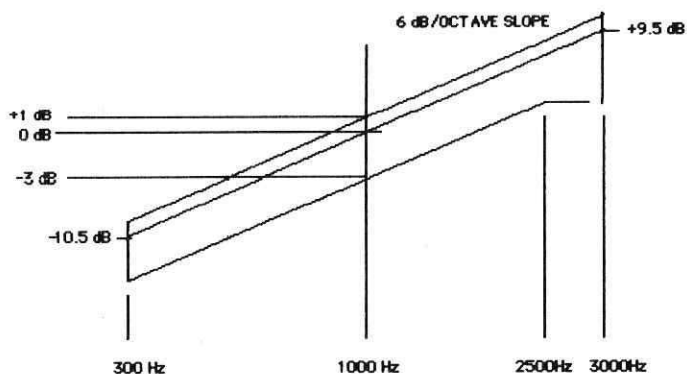

FIGURE 5.9—AUDIO FREQUENCY RESPONSE
7. Plot the data points obtained above in dB relative to the 1 KHz level and compare with the transmitter's specifications. EIA RS-152B specifies that a transmitter's frequency response be within +1 dB or -3 dB of a +6 dB per octave pre-emphasis from 300 to 3000 Hz (6 dB per octave roll-off allowed between 2500 and 3000 Hz). Refer to figure 5.9.